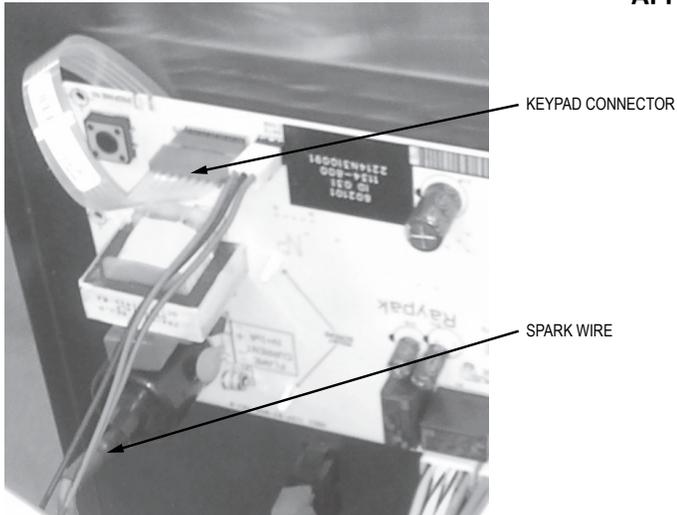

Figure 12. Keypad Connector and Spark Wire
9. Remove the keypad ribbon connector and spark wire (see **Figure 12**). **NOTE:** Be careful when removing the spark wire.